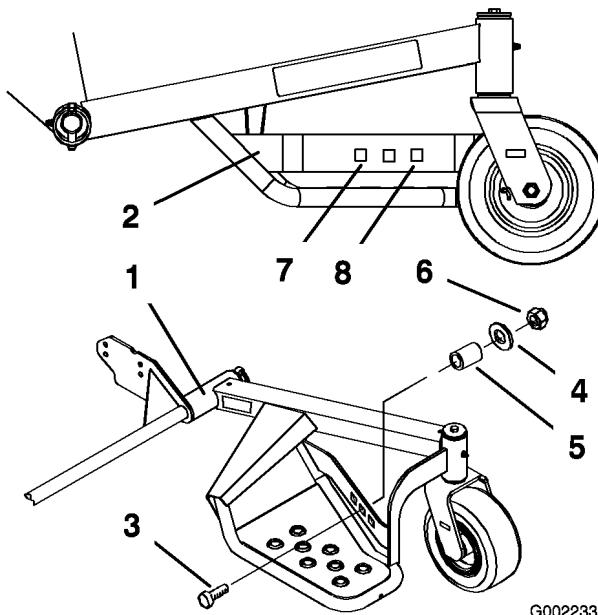

Figure 15
4. Install the nut (5/16 inch), small washer, spacer, lanyard and bolt (5/16 x 1 inch) into the desired hole (Figure 15).
1. Remove the nut (5/16 inch), small washer, spacer, lanyard and bolt (5/16 x 1-1/4 inches) from the sulky side support (Figure 15).
3. Locate the three adjustment holes in the sulky assemblies (Figure 15). The hole closest to